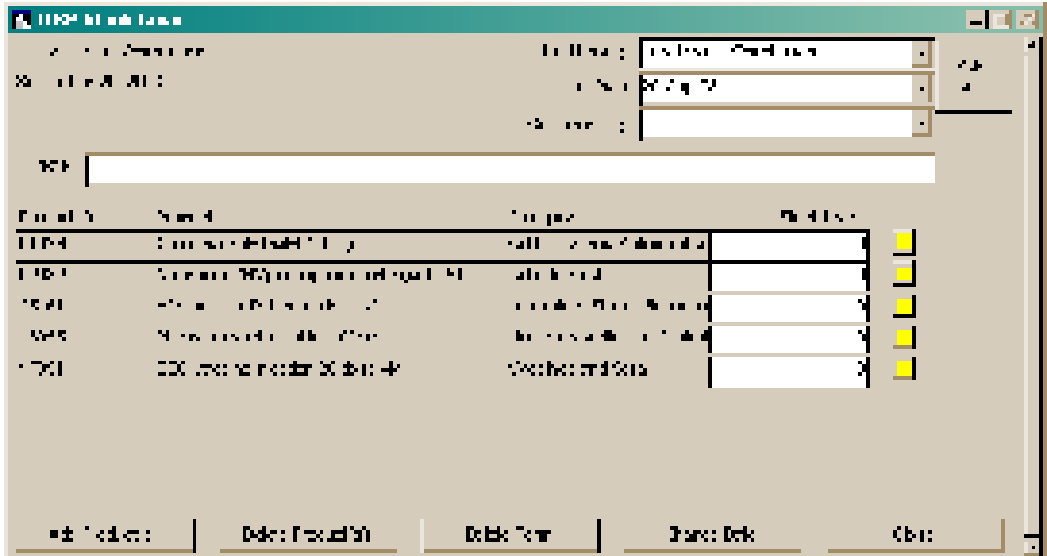

Figure 8.3 Blank DRP Stock Count form.
4. Click Yes to add a stock count record. A DRP stock count record (Figure 8.3) is created for the facility, listing products distributed by the selected facility.